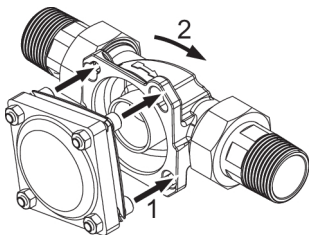
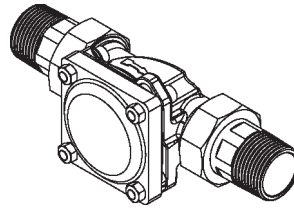

Fig. 5: Placing and engaging the device (fastening principle)
Fig. 6: Device connection engaged (fastening principle)
4. Insert the heads of the four flange screws of the device through the bayonet holes on the rotary flange fitting (see Figure 5).
5. Turn the device in a clockwise direction as far as it will go (see Figure 5 and Figure 6).